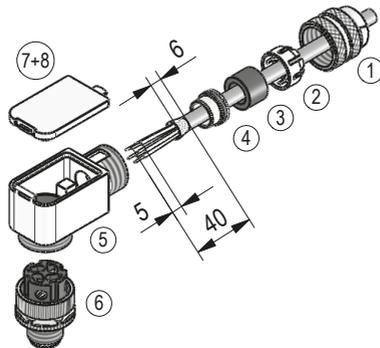
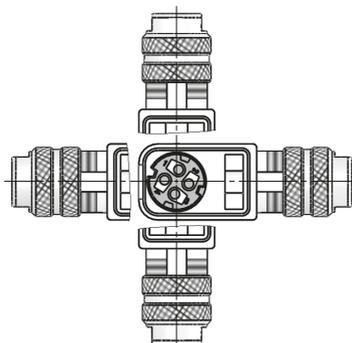

Fig. 7: Right angle mating connector M12
Fig. 8: Angled positions
- Accessory SIKO art. no. "87600" M12 D coded (plug pin 4 pole Ethernet Port 1 (IN) + Port 2 (OUT)) (Fig. 7 + Fig. 8).
Mounting (Fig. 7)
Changing the angle position (Fig. 8)